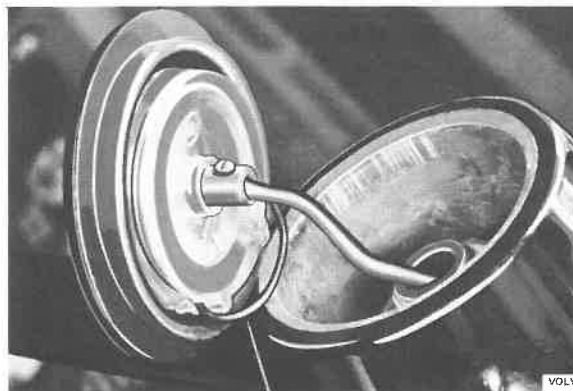

Fig. 36-9. Horn button
1. Remove the horn button by lifting it off the steering wheel with a small screwdriver or similar tool, see Fig. 36-9.